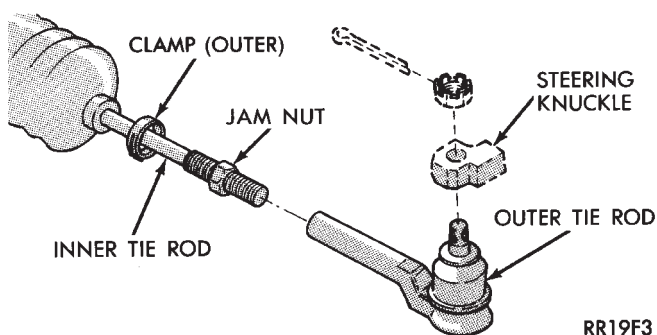

Fig. 1 Outer Tie Rod
(1) Loosen inner tie rod to outer tie rod jam nut (Fig. 1).
(2) Remove outer tie rod to steering knuckle cotter pin and attaching nut (Fig. 1).
(1) Install outer tie rod onto inner tie rod. **Make sure jam nut is on inner tie rod (Fig. 1).**
(2) Do not tighten jam nut.
(3) Install outer tie rod onto steering knuckle. Install tie rod to steering knuckle attaching nut and torque to 52 N•m (38 ft. lbs.).